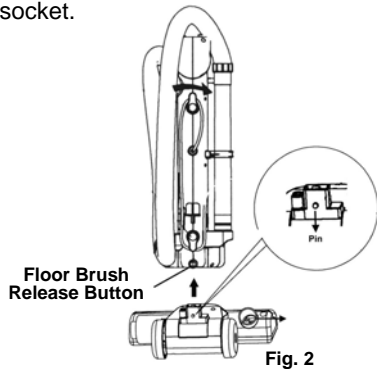

Fig. 2
1. Insert the floor brush into its location at the bottom of the main unit, in the direction of the arrow. (Fig. 2)